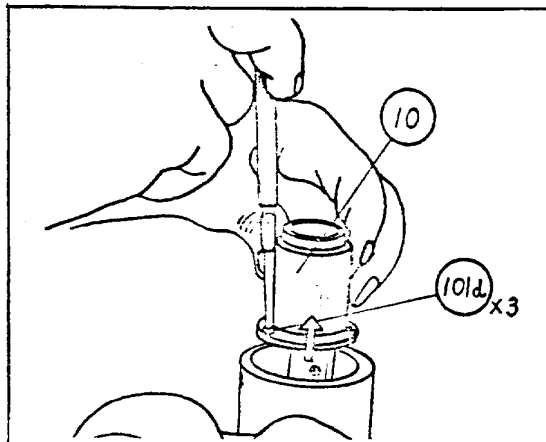

Fig. 16
- 13) Unscrewing the screws (101d)  $\times 3$ , remove the photoeyepiece sleeve receptacle (10) (Fig. 16).